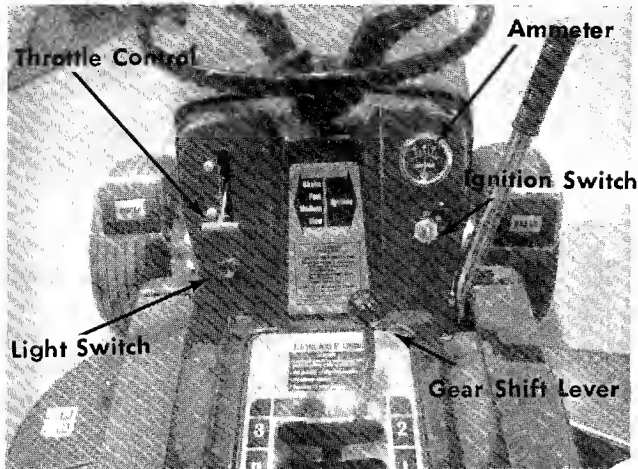

FIGURE 5. CONTROLS
a. **Throttle Control.** The throttle control is used to regulate the engine speed and choke the engine. The engine should be operated from  $\frac{3}{4}$  to full throttle when operating the cutting deck or snow thrower (optional). See figure 5.
b. **Gear Shift Lever.** The gear shift lever is used to shift into one of three FORWARD GEARS, NEUTRAL or REVERSE. See figures 5 and 6.
g. **Ammeter.** The ammeter registers the rate of battery charge or discharge. The ammeter should register on the plus side (+) when the engine is running in the fast position until the battery is completely charged. With a fully charged battery or with the engine idling the ammeter will not show a charge. See figure 5.
h. **Light Switch.** Pull the light switch out to turn on the lights. The lights will only operate when the engine is running. See figure 5.
**Electric Start.** See figure 5. Turn the key to the START position to start the engine. When the engine is running, let the key return to the ON position. To stop the engine, turn the key to the left to the OFF position and remove it to prevent accidental starting.
Step 4. Set the throttle control in the CHOKE position. See figure 5.